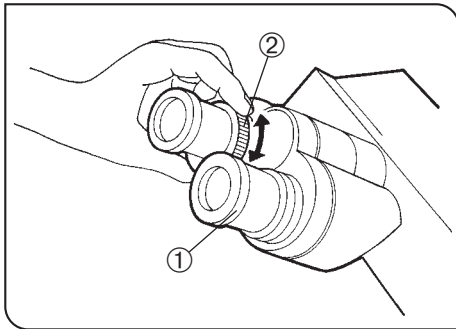

Fig. 32
## 6 Using Eyepieces Incorporating a Micrometer (Fig. 32)
1. Looking into the right eyepiece with your right eye, turn the top of the eyepiece ① so that the micrometer in the field of view looks sharpest (Fig. 32).
3. Looking into the left eyepiece with your left eye, rotate the diopter adjustment ring ② to bring the specimen into focus.